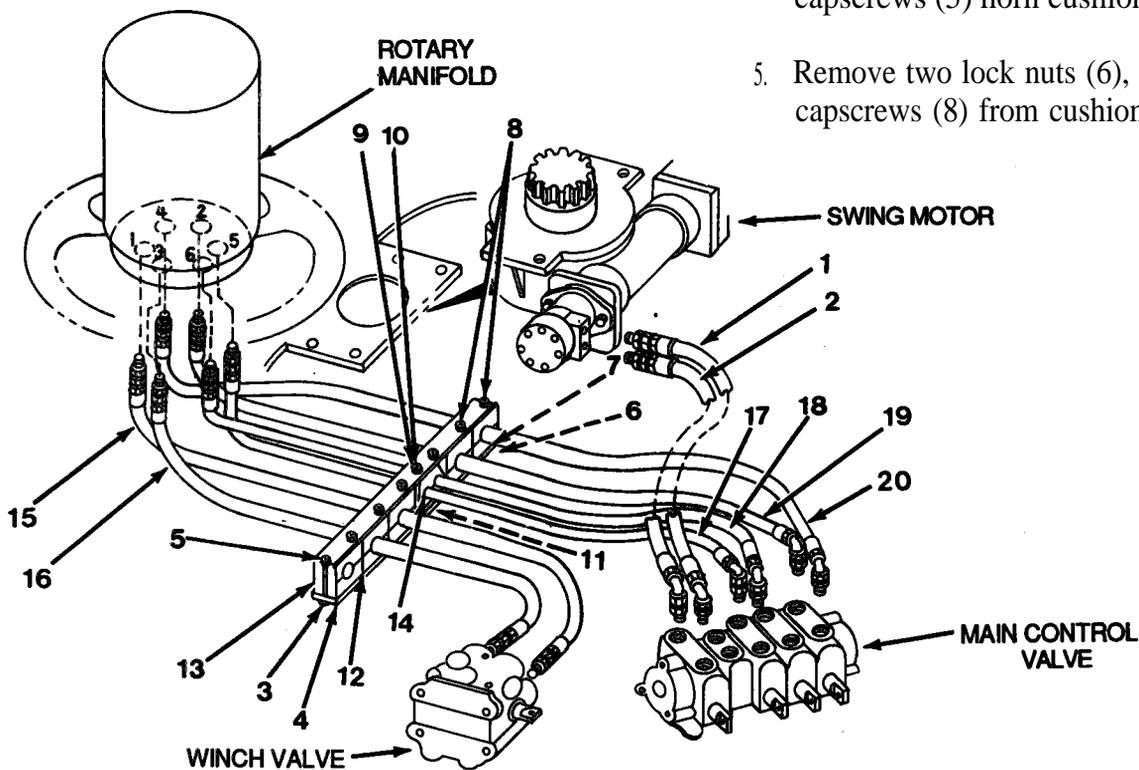

Figure 13-1
5. Remove plate (12) and bottom half of cushion (13).
6. Remove lock nut (9), washer (10), capscrew (11), plate (14) and top half of cushion (13, Figure 13-1).
7. Disconnect hoses (15) and (16) from rotary manifold.
8. Remove hoses (15) and (16) from winch valve.
9. Disconnect hoses (17), (18), (19) and (20) from rotary manifold.
10. Remove hoses (17), (18), (19) and (20) from main control valve.